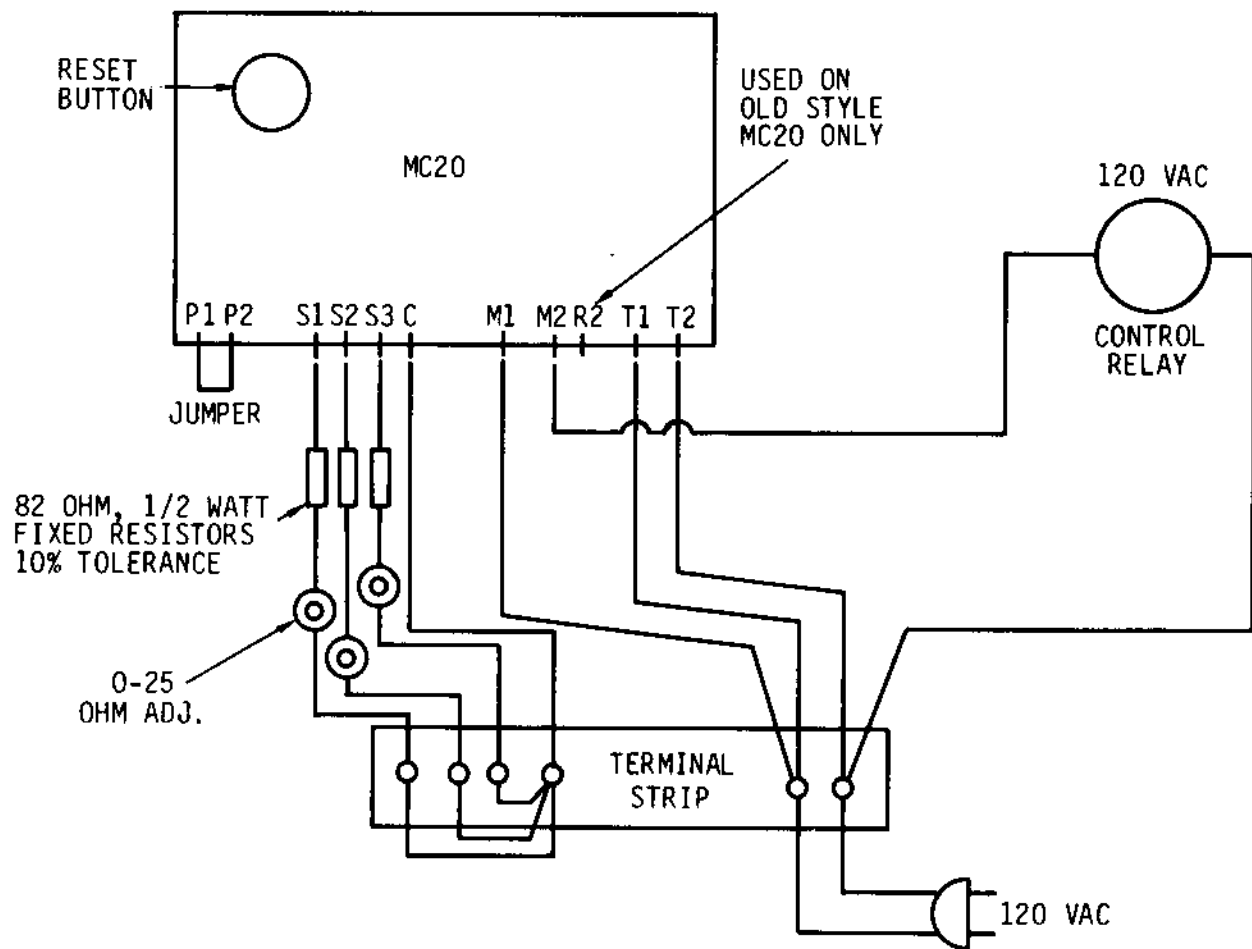

FIGURE 5 - Schematic Showing Test Board Connected to an MC-20 Motor Protector
The proper testing procedure for an MP-13, MP-23 or MC-20 motor protector module requires the use of a test board (Figure 5). The parts required to build the test board are listed below.
1. Connect the leads of the test board to the motor protector module as shown in Figure 5.
2. Install a jumper between terminals P1-P2 of the MC-20 protector module (Figure 5). There are no P1-P2 terminals on the MP-13 or on the MP-23 modules.